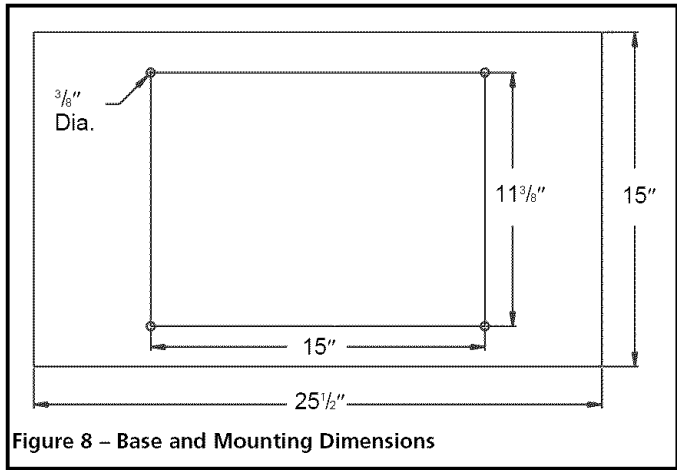

Figure 8 – Base and Mounting Dimensions
- Figure 8 shows the base dimensions and mounting hole dimensions of the planer.